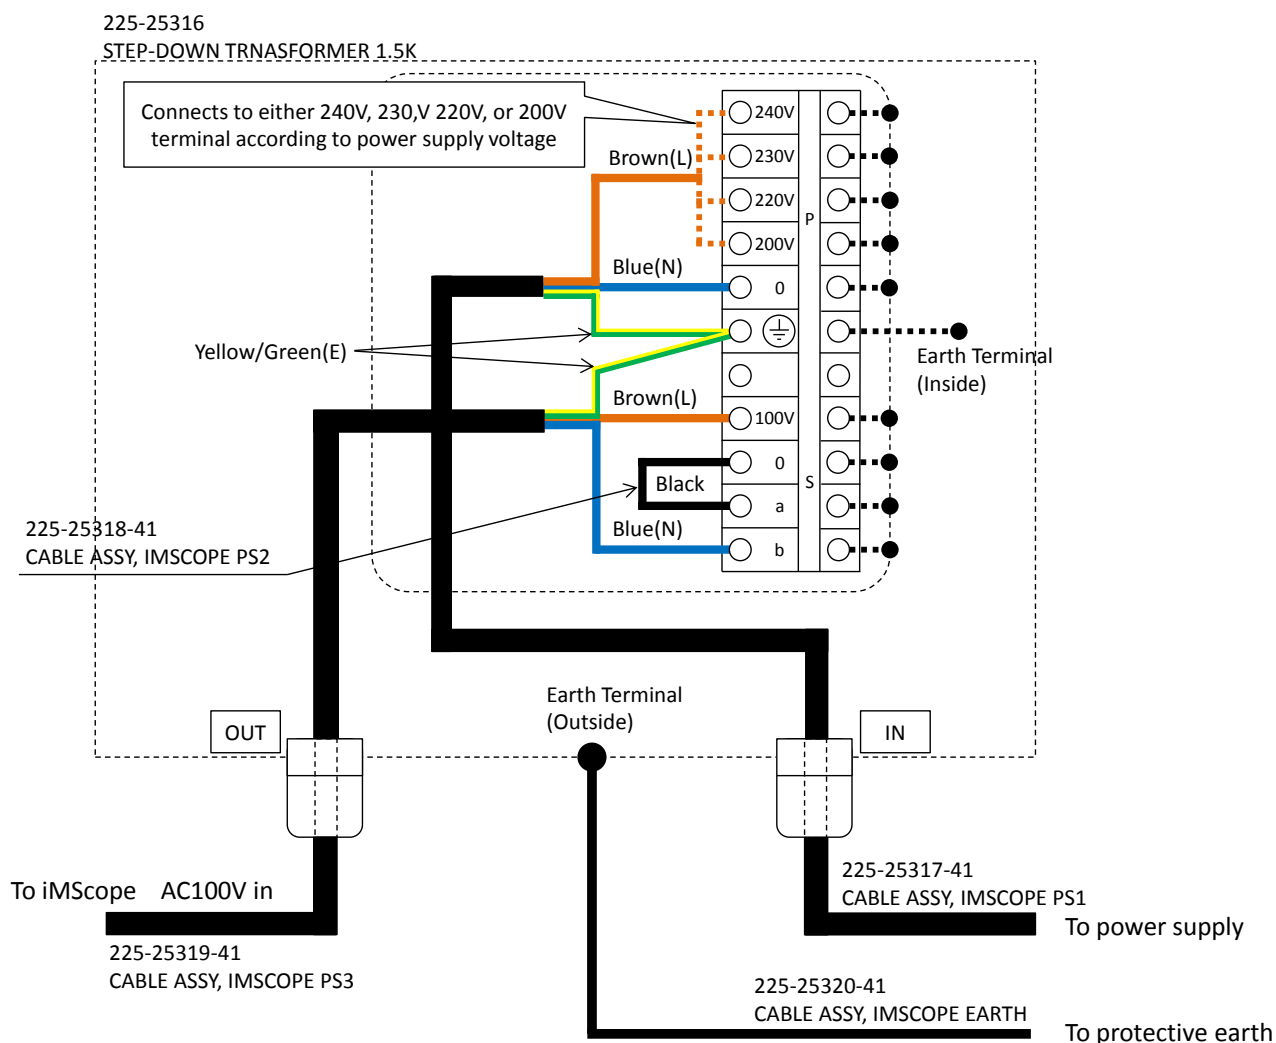

Fig.5 How to install the step-down transformer, TBX-1.5KKV
- In the country where power supply voltage is not AC100V, use a step-down transformer on the AC100V power-supply line. Refer Fig.5 to install the step-down transformer